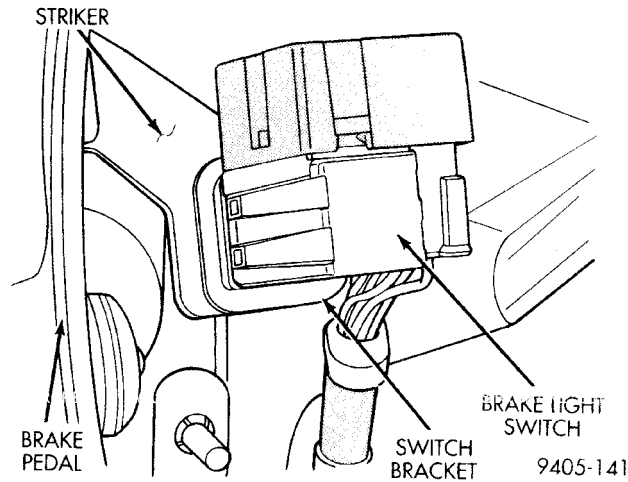

Fig. 183 Stop Light Switch Location In Vehicle
CAUTION: Do not use excessive force when pulling back on brake pedal to adjust the stop lamp switch. If too much force is used, damage to the vacuum booster, stop lamp switch or striker (Fig. 183) can result.
(5) Connect the wiring harness connector to the stop lamp switch.
(6) Gently pull back on brake pedal until the pedal stops moving. This will cause the switch plunger (Fig. 183) to ratchet backward to the correct position.